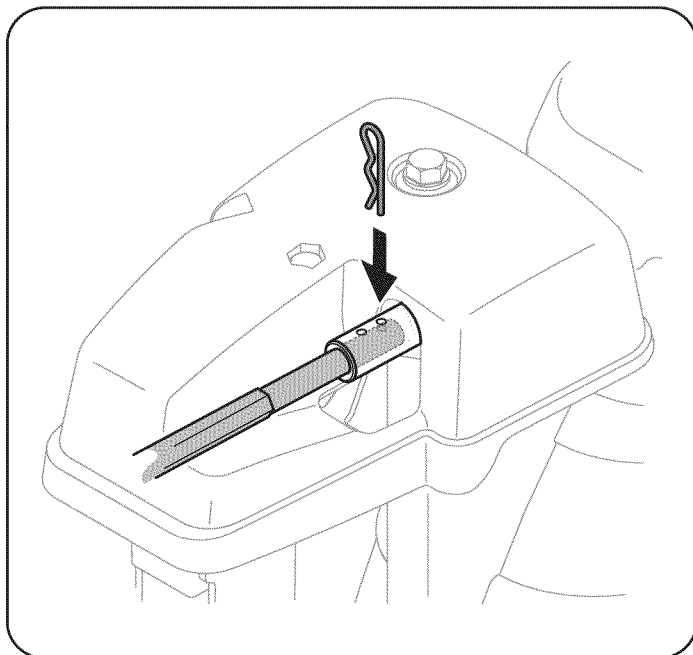

Figure 9
8. Now push the chute control rod back towards the handle panel until the hole in the rod lines up with the hole in the chute control input closest to the chute control head. Insert the cotter pin removed in Step 2. See Figure 9.